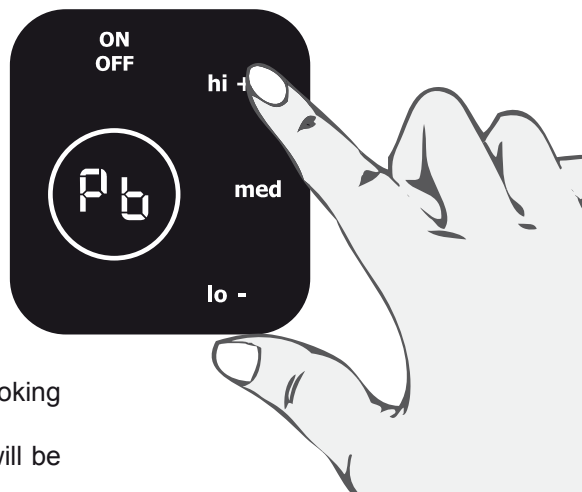

Figure 1
- Press the "**hi +**" key pad and the **PB** will be shown in the display (figure 1).